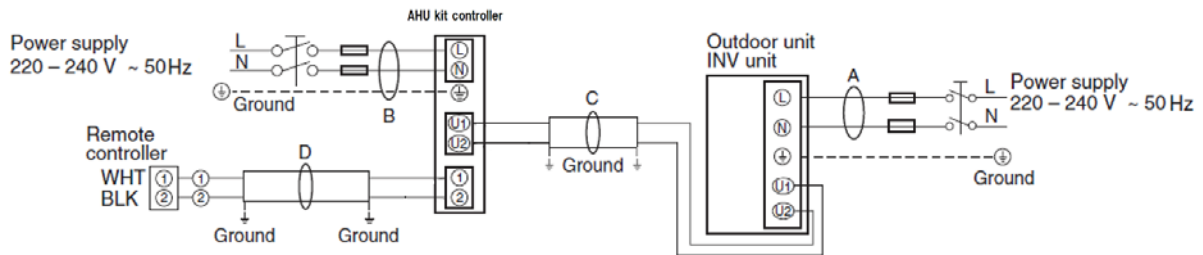

Fig.9-1
- (1) Refer to Section 9.2. "Recommended Wire Length and Wire Diameter for Power Supply System" for the explanation of "A", "B", "C" and "D" in the above diagram. (Fig.9-1)